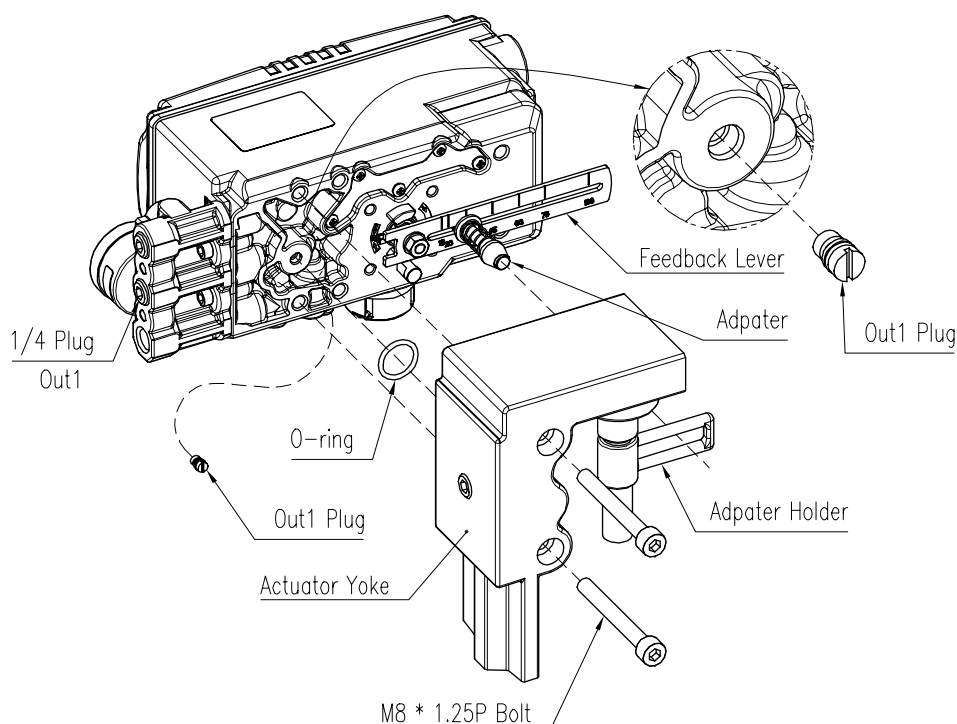

Fig. 3-11: Installing the positioner on the actuator
- 1) Remove Out1 Plug(Fig. 3-11) on the bottom of the positioner. Plug up out1 port of gauge block with 1/4 plug using sealant.
- 7) Check if feedback lever is vertical to the valve stem at 50 % of the valve stroke. If it is not vertical, adjust the adapter holder on the actuator's stem to make vertical – **DO NOT TIGHTEN THE ADAPTER HOLDER COMPLETELY**. Improper installation may cause poor linearity. Refer to Fig 3-11.